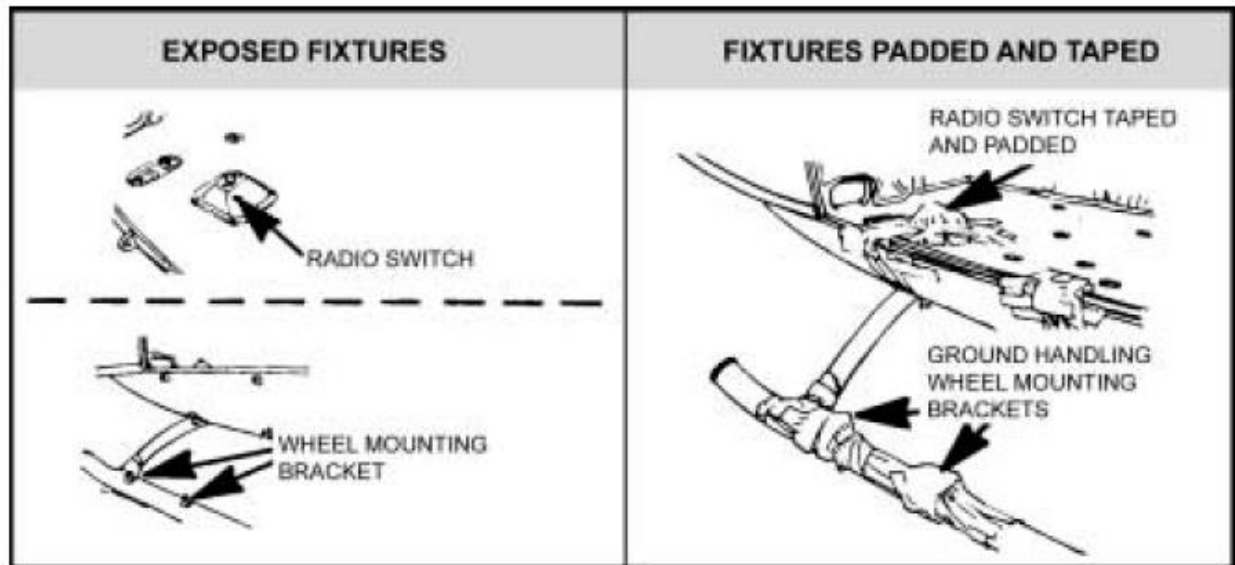

Figure 1. UH-1 exposed fixtures padded.
- (3) The door and frame are inspected to ensure there are no sharp edges that could cut or fray static lines. If these are determined to be hazardous, corrective action is taken before the helicopter is jumped.
- (4) Safety belts are attached to the tie-down rings on each side of the compartment for floor-seated parachutists.
- (5) The door gunner/crew chief foot-operated radio switch may be unscrewed (by hand) before jumping. The exposed radio switch wires are taped to prevent an electrical short. If the switch is not removed, it is padded and taped. The ground-handling wheel mount brackets on both landing skids are padded with cellulose wadding and taped (Figure 1). Some aviation units have fabricated special covers that may be used to cover the wheel-mount brackets.